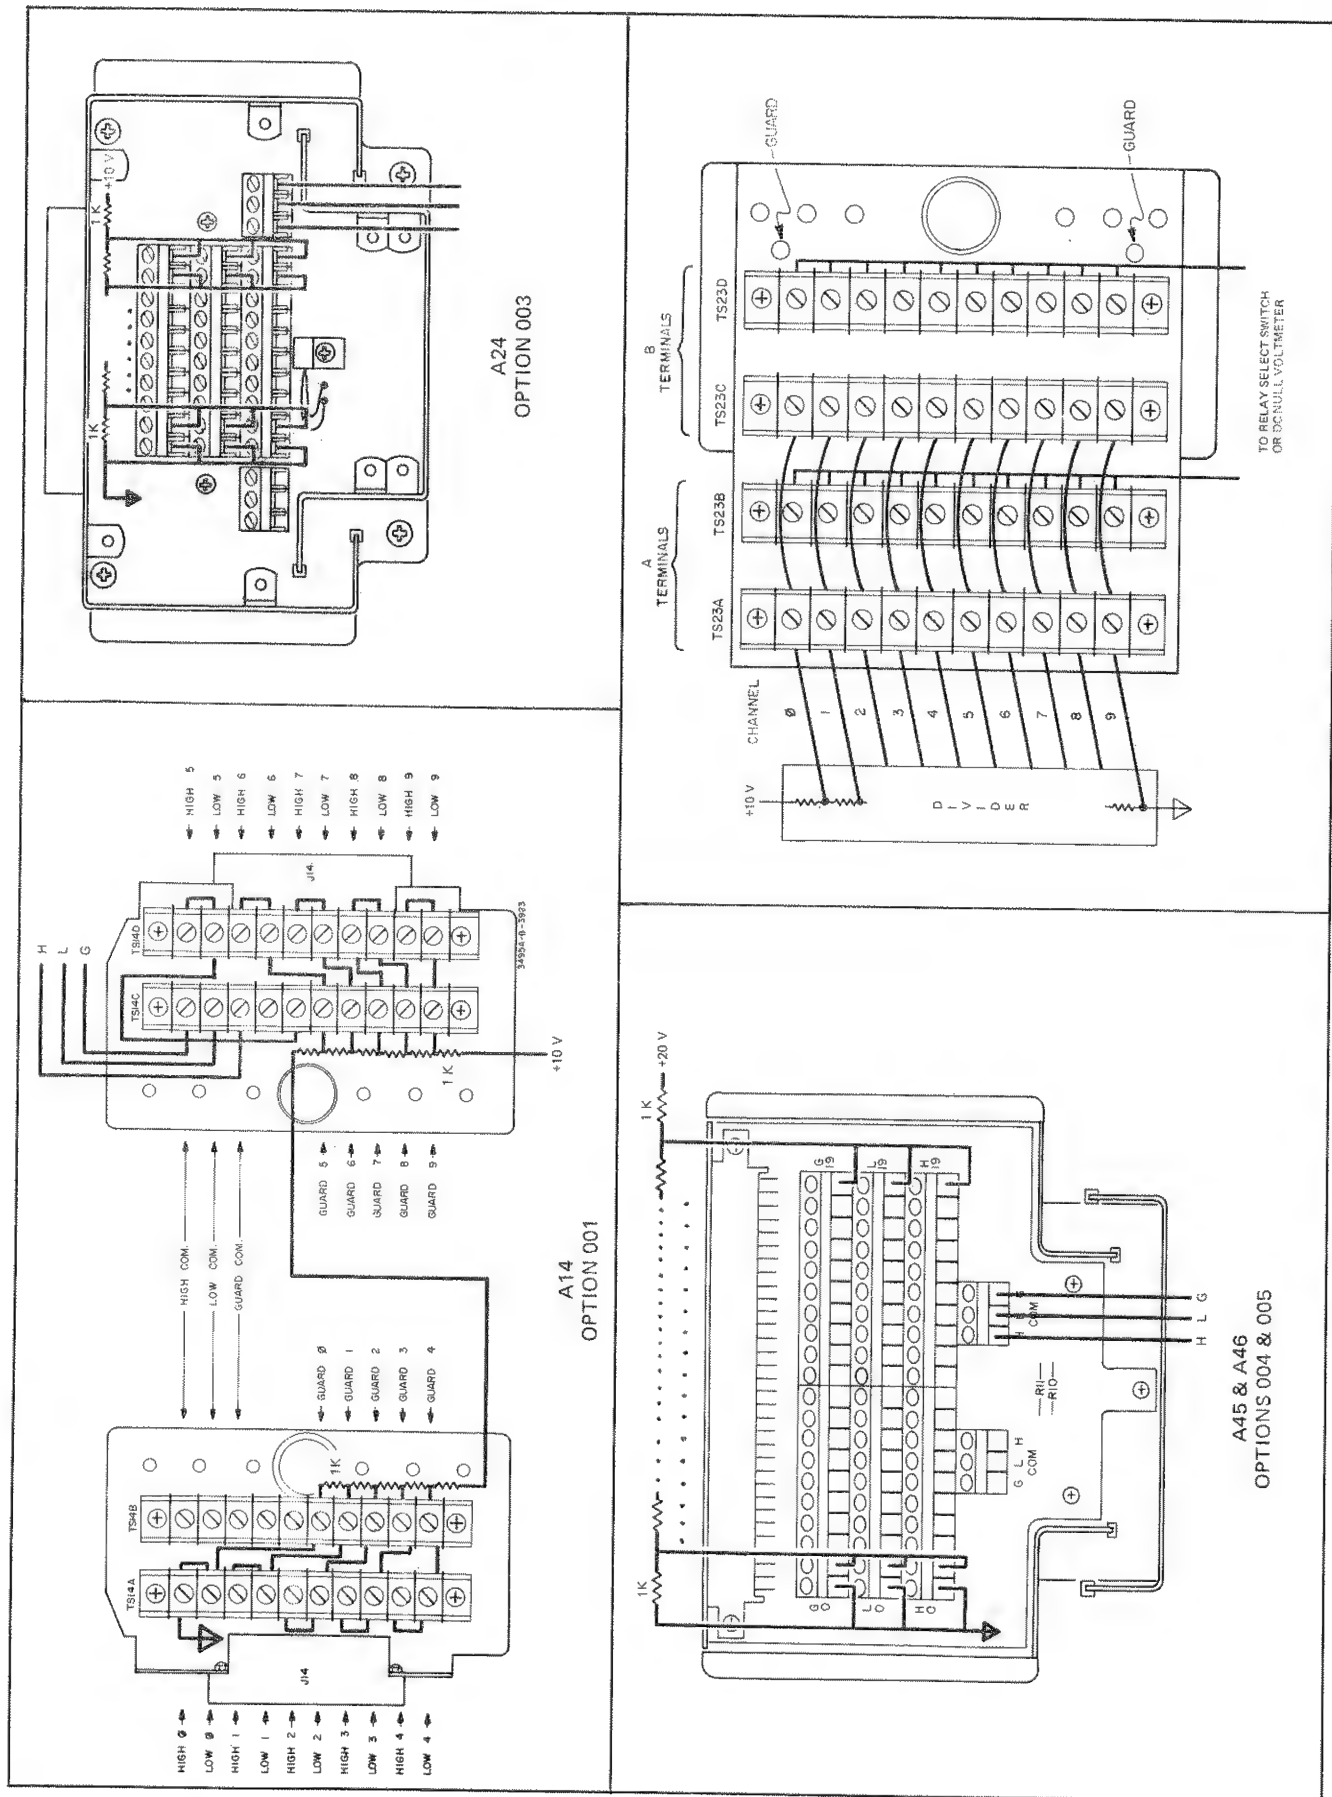
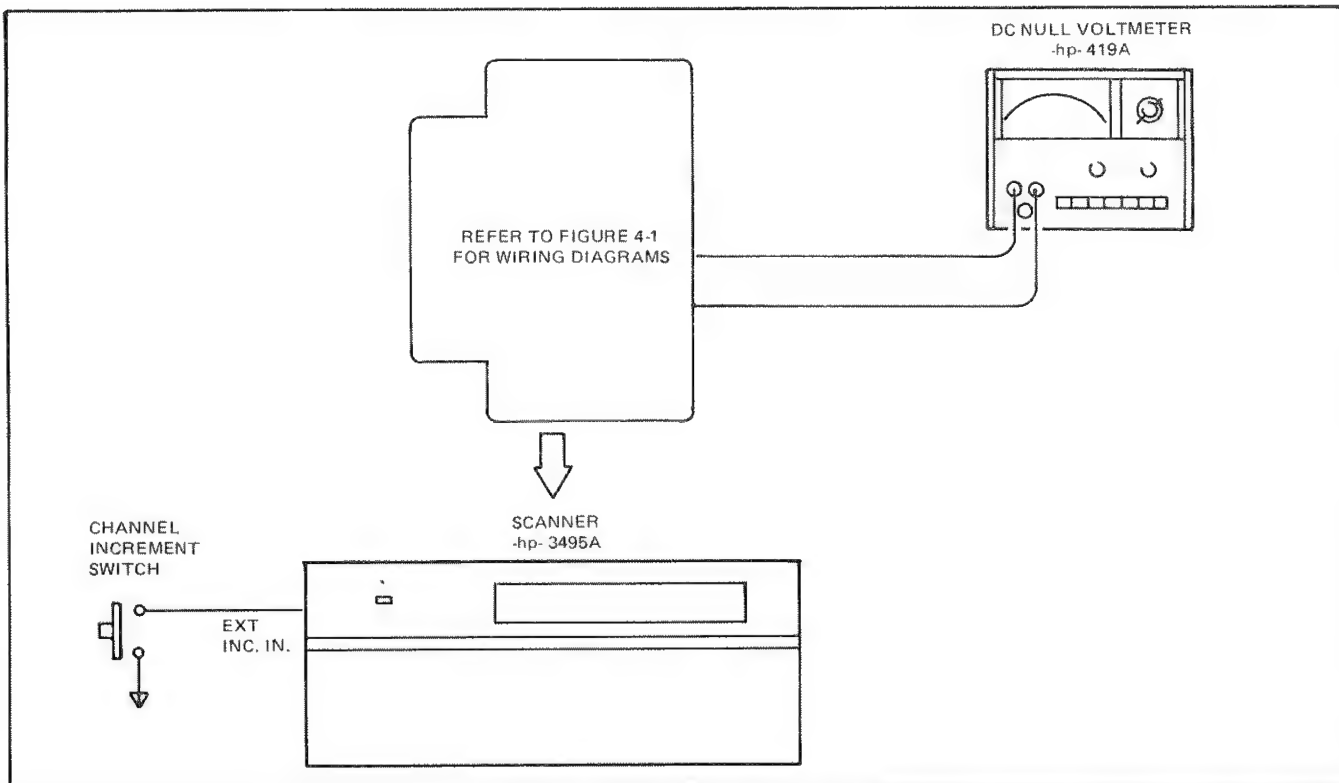

Figure 4-1. Switching Time And Thermal Offset Voltage Test Wiring Diagrams.
Figure 4-4. Thermal Offset Voltage Setup.
- b. Wire the divider network as shown in Figure 4-1.
a. Connect the test setup as shown in Figure 4-4. The connector wiring in Figure 4-1 can be used for this test also.
g. Repeat Steps b through f for all channels to be tested. The actuator channel measurements require rewiring the connector for each channel measured, unless common connections are wired as in Figure 4-1.